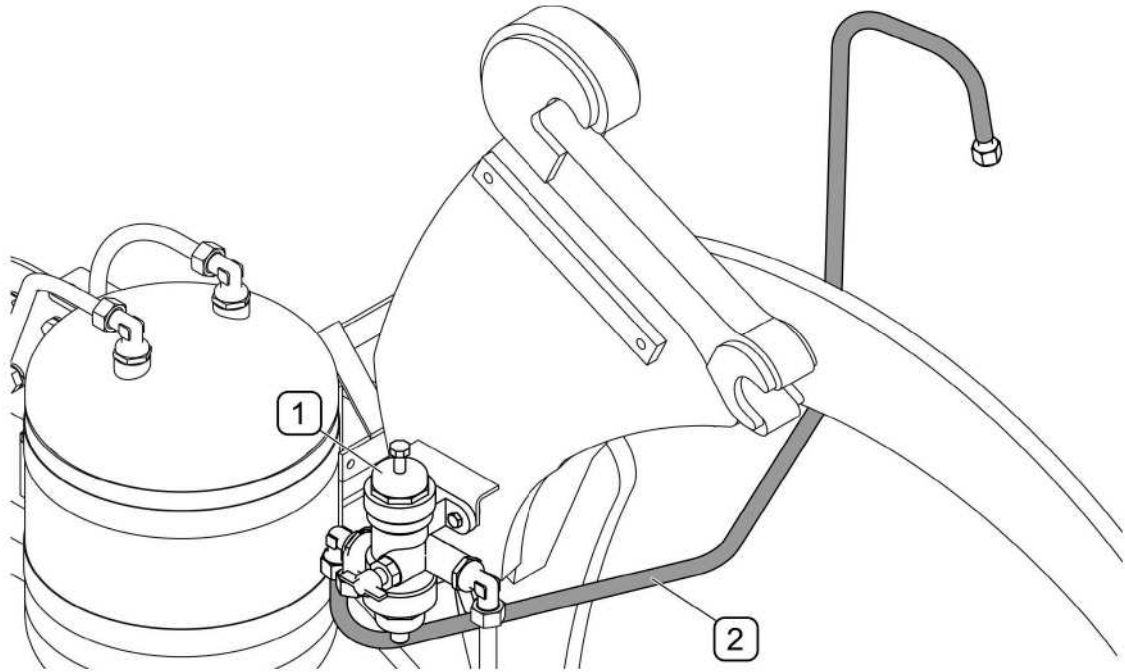

FIG. 4.15A Modification of pneumatic system (ZEFIR 85/85K)
In pneumatic system change metal line (FIG. 4.15A), connecting compressor with pressure regulator on line (2) catalogue no. 145N-01020600. Air pressure regulator (1) shall be mounted on right bracket of bearer frame. After completing above actions check seal tightness of pneumatic system.